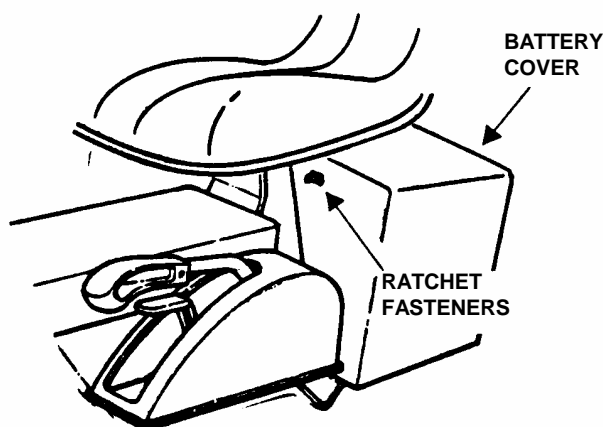

FIGURE 4.17
1. Carefully pull each side of battery cover away from ratchet fasteners and remove cover. See Figure 4.17.
5. Reinstall the battery cover. See Figure 4.17.